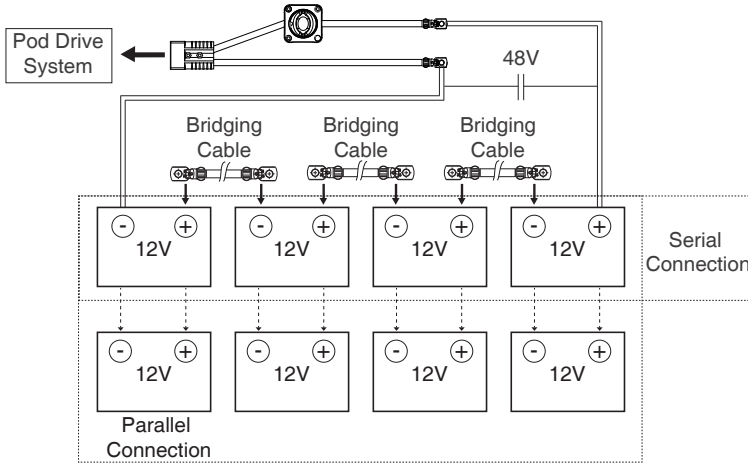

Figure 4-3
Users can also choose to make a 48V battery by connecting four 12V batteries in series. When connecting four 12V batteries in series to make a 48V battery set to supply power for Pod Drive 3.0, use bridging cables to connect batteries in series (Figure 4-3). Make sure to connect the cable with main switch attached to the positive terminal and connect the other cable to the negative terminal.
-  Never reverse the polarity. Please pay more attention when connecting batteries in series and/or in parallel configuration. Always double check by referring to Figure 4-3.